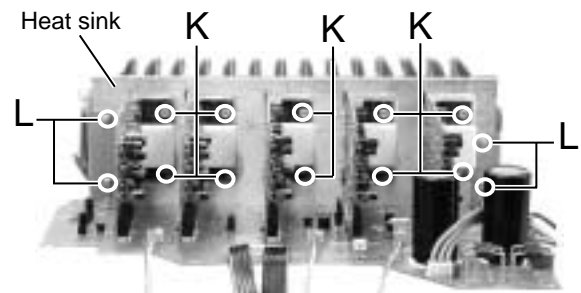

Fig.11
**■ Removing the Heat sink (See Fig.11 and 12)**